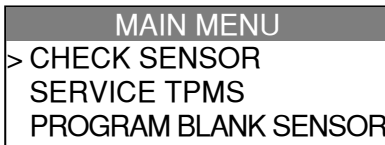

Fig. 5
- Then reverts to the **MAIN MENU** as in **Fig. 5**,